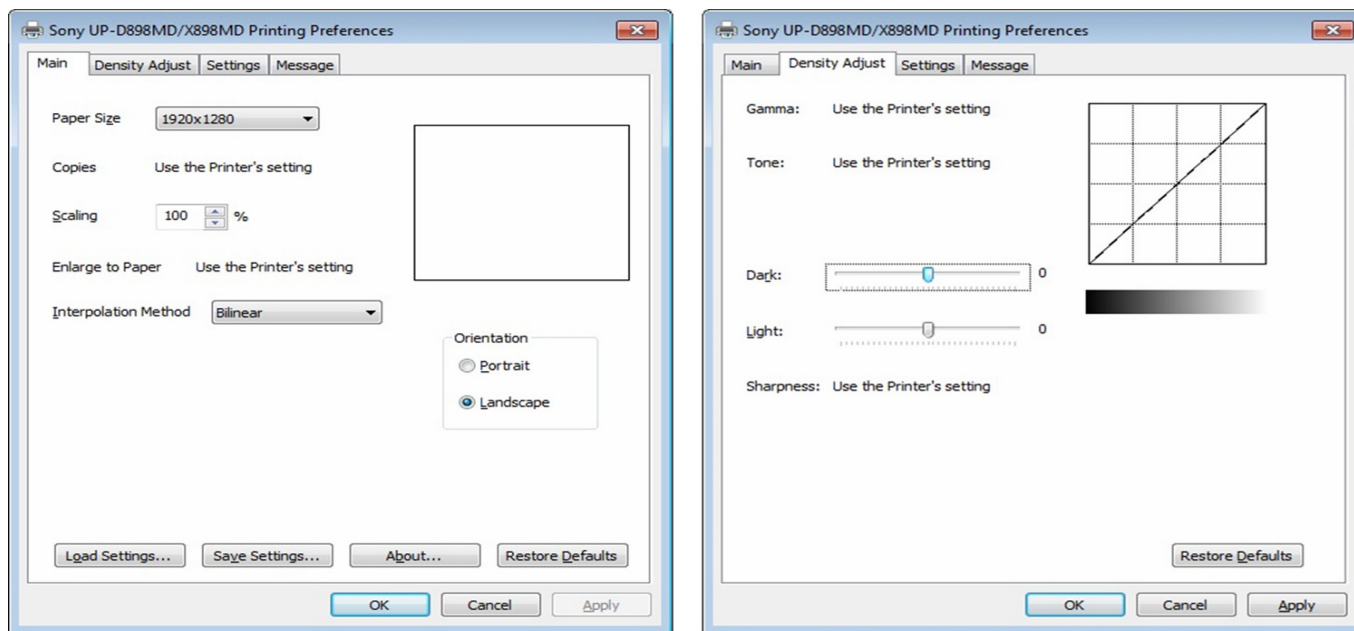

Figure 3-25 Layout + Density Adjust page
- 2) Select the **MAIN** page (see: Figure 3-25 below) and select:
- 3) Select the **DENSITY ADJUST** page (see: Figure 3-25 above) and select: